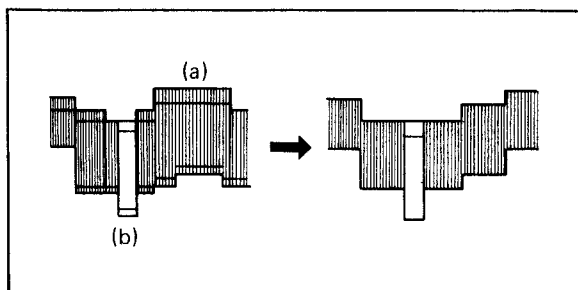

Fig. 6-22 Limiter and Carrier balance
3. Adjust R104 (LIMITER BAL.-2) and R95 (CARRIER BAL.) so that the peak white (a) and sync tip (b) becomes a single line as shown in Fig. 6-22.